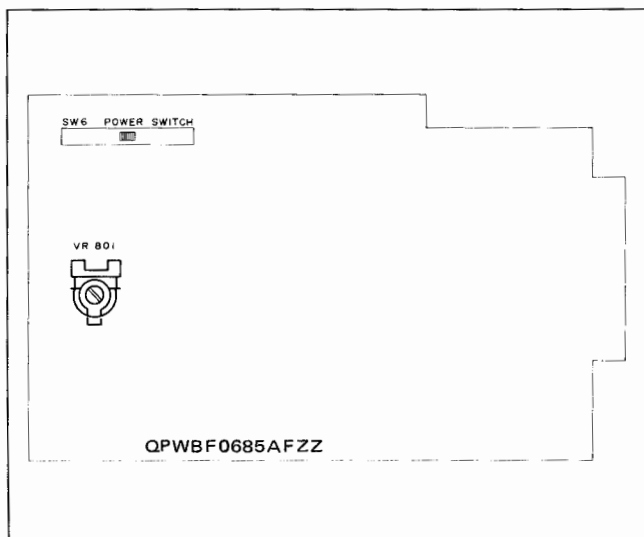

Figure 16
2. If the measured voltage is found to be beyond  $\pm 0.2$  V of the specified value, turn the LSI voltage Adjust Control (VR801) located at the power P.W.B. to adjust so that the VTVM will read the specified value. (See Figure 16.)